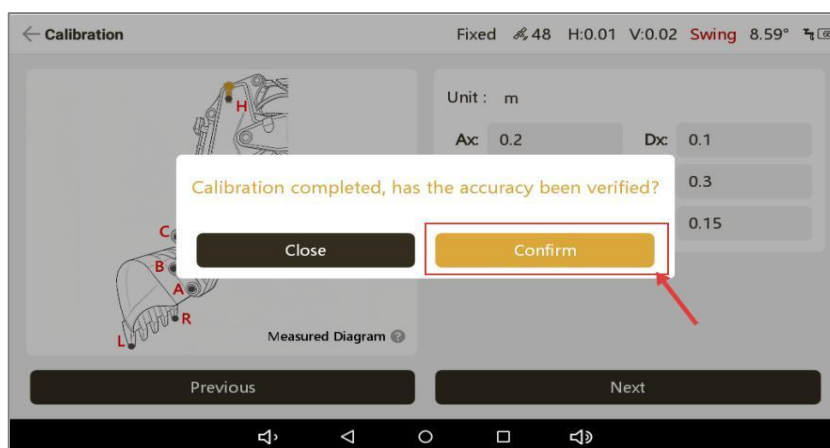
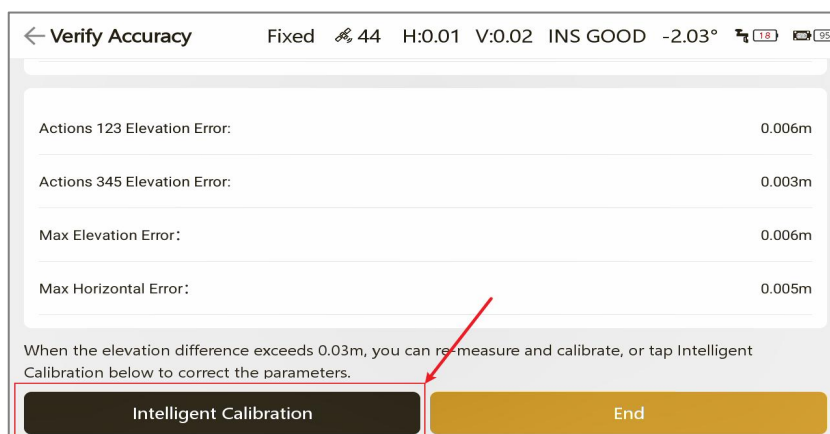
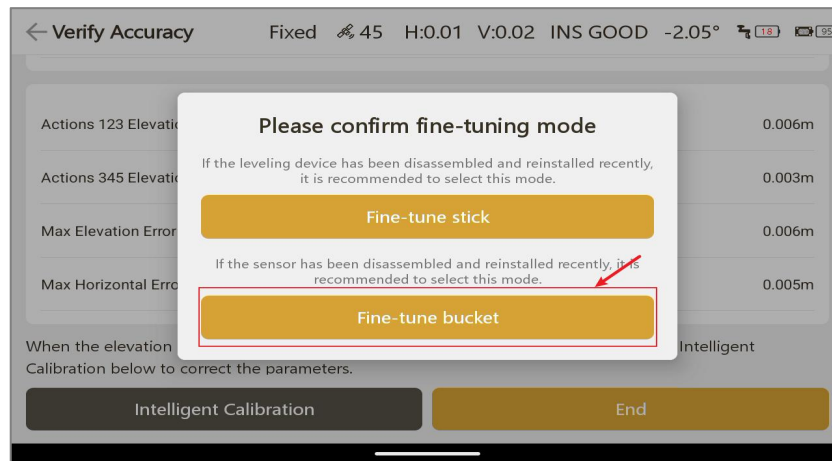

Figure 3-55
Figure 3-56
Figure 3-57
- (10) Complete the calibration, then tap 'Confirm' to verify accuracy, as shown in Figure 3-55. To verify accuracy, use the left bucket tip to measure the same point three times with different arm postures. The accuracy verification results are shown in Figure 3-56. **Note: If the elevation accuracy range (max-min) for small excavators is within 3 cm, and for large excavators within 6 cm (± 3 cm accuracy), the calibration is considered successful, and you may tap 'Close'.**
- (11) If the elevation accuracy does not meet the requirement, tap 'Intelligent Calibration', as shown in Figure 3-56 above. Tap 'Fine-Tune Bucket', as shown in Figure 3-57, and then tap 'Confirm' in the pop-up window.